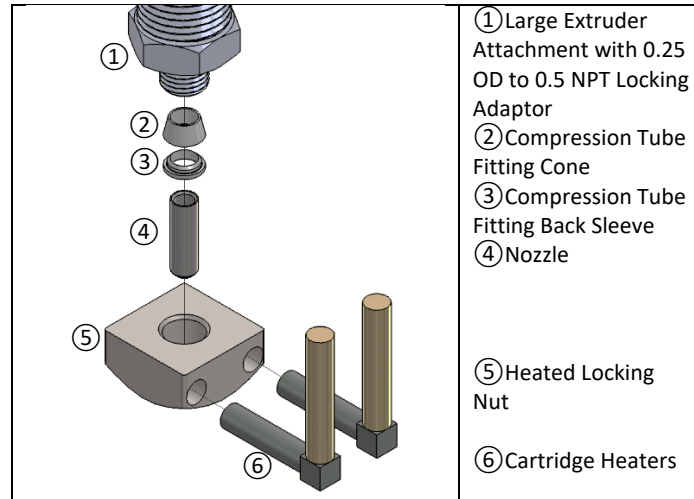

Figure 11 Exploded view of Small Nozzle Assembly. Note the configuration of the ferrules.
The Pellet extruder comes with a tip heater that screws onto where the large nozzle is attached. The tip heater contains (Figure 11):
5. Apply anti-seize to the barrel tip threads and then install the nozzle with the inner tip in the configuration found in Figure 11.